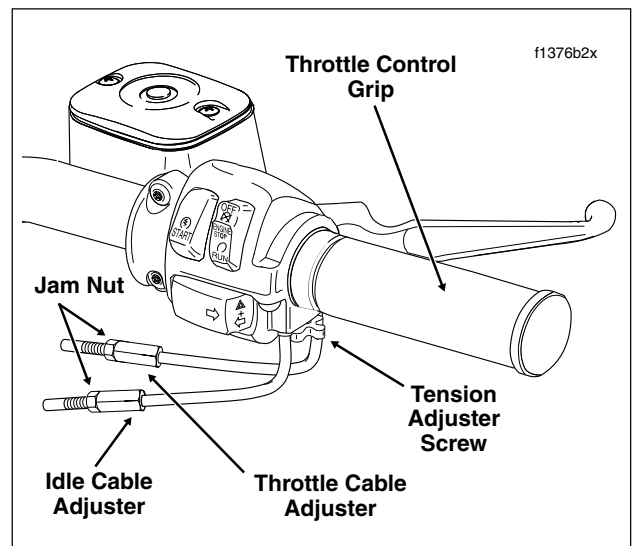

Figure 1-21. Throttle Cable Assembly - Throttle Side (FLHR/S)
1. Slide rubber boot off throttle cable adjuster. See Figure 1-21. Holding cable adjuster with a 3/8 inch wrench, loosen jam nut turning in a clockwise direction. Back jam nut away from cable adjuster until it stops. Turn adjuster clockwise until it contacts jam nut. Repeat procedure on idle cable adjuster.